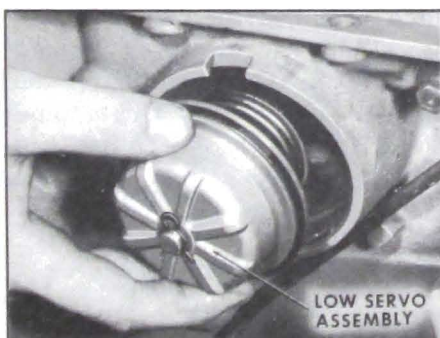

Figure 5-126
5. Remove low servo piston assembly from case. See Figure 5-126.